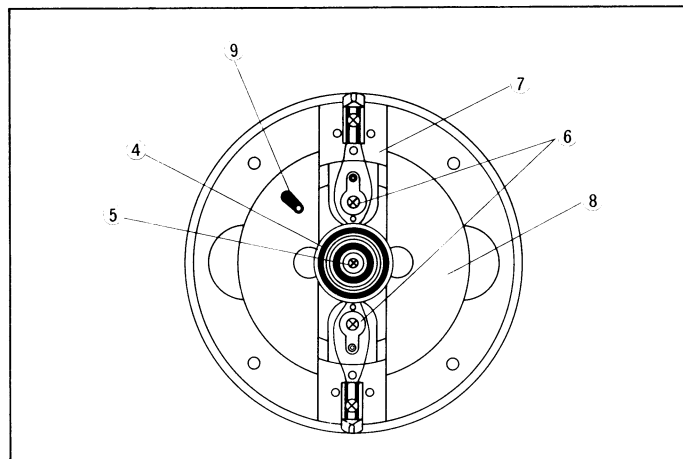

Fig. 6-4.
2. Using a 4mm hex wrench loosen the two blue hex screws ③ attached to the bottom of the head drum support bracket. Support the front of the head drum by hand and remove the screws. (CAUTION: Do NOT remove the two green hex screws located in the top of the bracket.) Carefully lift the upper drum assembly ① and drum bracket ② and lay the assembly on the chassis.
3. Refer to Fig. 6-4. Remove the screw ⑤ which secures the rotary transformer ④ to the video heads and unsolder the four wires between the transformer and the heads.
4. Remove the two screws ⑥ which secure the head bar and lift it off the lower drum.
5. Clean the bottom surface of the replacement head assembly and the mounting surface of the fly-wheel ⑧. Connect them with the two screws which were removed from the old head assembly.
6. Solder the lead from the inner ring of the rotary transformer to the video head (CH-1) nearest the permanent magnet ⑨. Solder the lead from the outside ring to the other head (CH-2). The red and brown wires should be attached to the left side of their respective video heads. (Looking at the head from the front.)